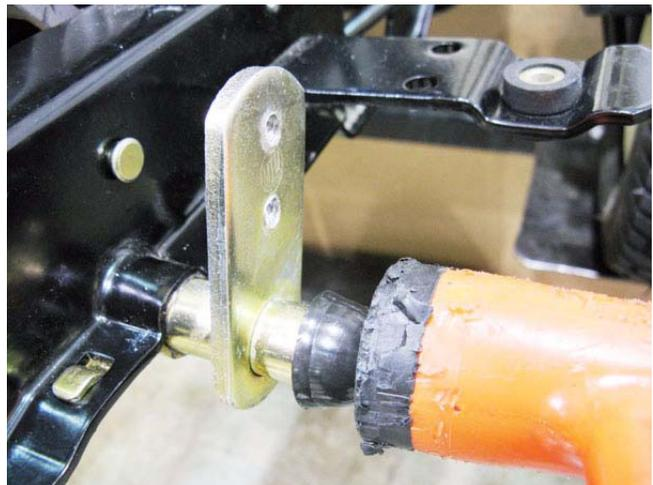

Figure 6.32
- 17c. Position the drive control shaft and bushings, fasten the drive control rod to it, then drive the push cap on. See Figure 6.32.